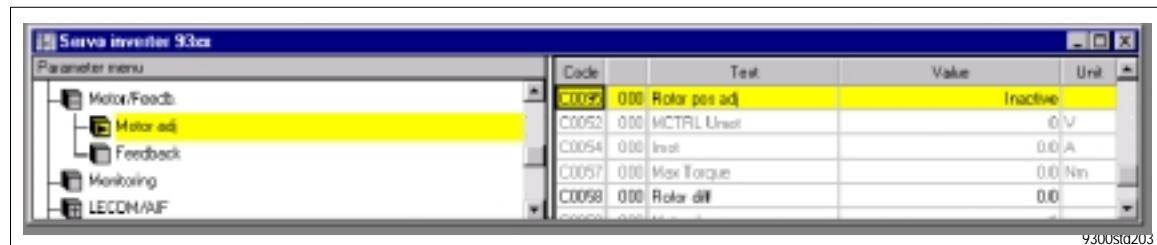

Fig. 5-4 Rotor position adjustment in GDC
3. Activation of the position adjustment with C0095 = 1 (GDC, see Fig. 5-4)
- The rotor angle is indicated under C0058 (see Fig. 5-4).